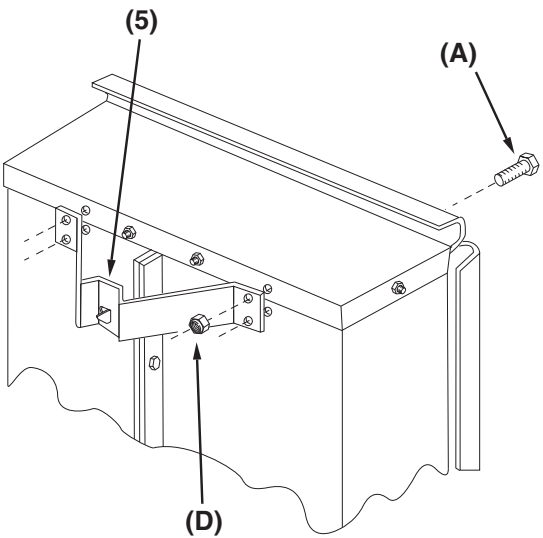

Figure 5
**STEP 5 (SEE FIGURE 5):** Attach the latch stand bracket (5) using four 1/4" x 5/8" hex bolts (A) and 1/4" nylock nuts (D). Make sure the tab in the latch stand bracket is positioned closest to the rear of the cart as shown below.